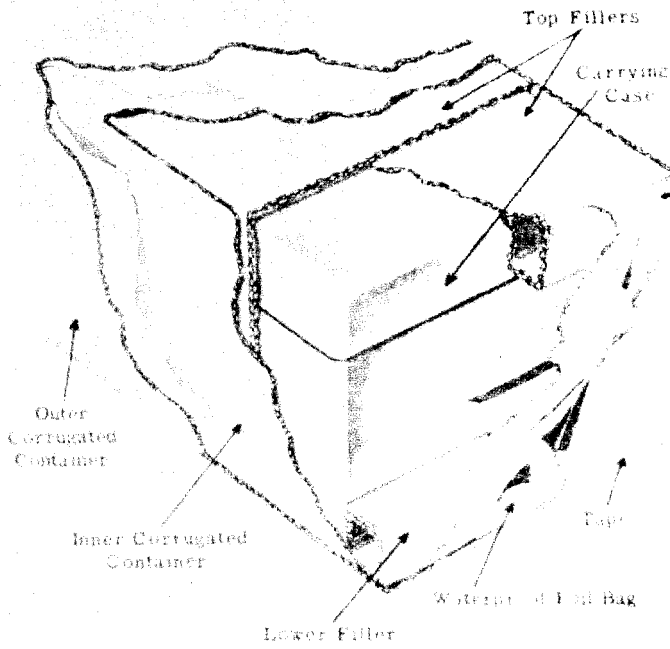

Fig. 3-1 Cutaway View of Packing Carton
1. UNPACKING. (See Fig. 3-1)--The radiac set is shipped in a packing case composed of two cardboard boxes, one within the other, with a moisture proof foil bag between them.